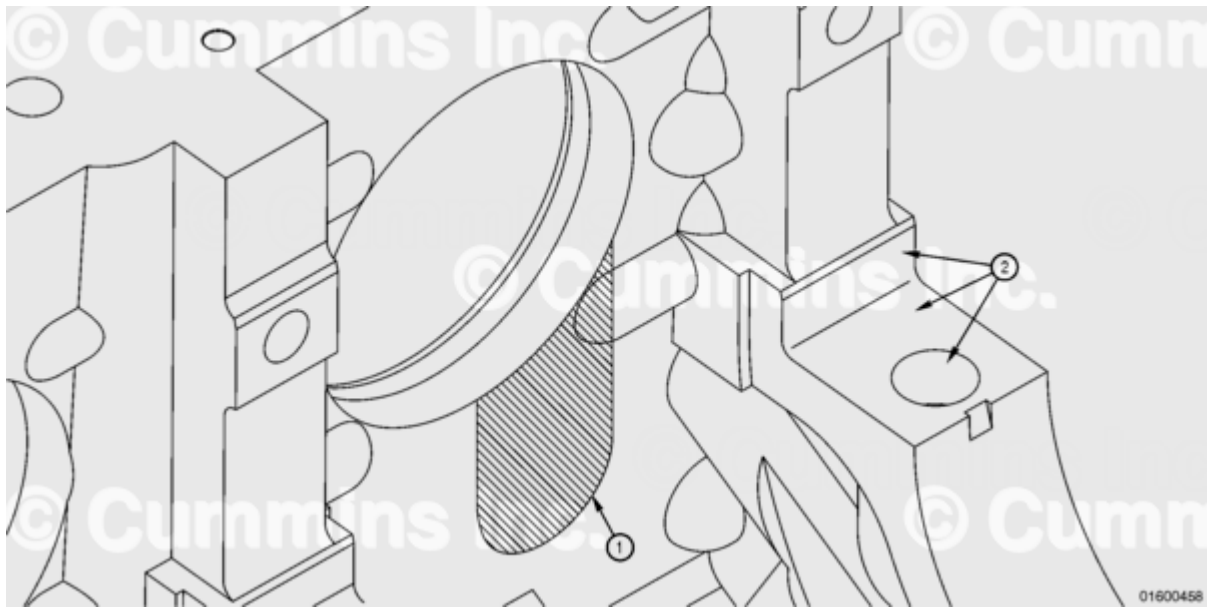

Figure 4: Sidewall Machining (1) Sidewall, (2) Datums used for machining.
Sidewall (See Figure 4 and 5)
- Remove a minimal amount of material from the sidewall (1). Variations in the cylinder block casting can result in no material being removed.
- Datums (2) used for machining the sidewalls are shown in the Figure 4.